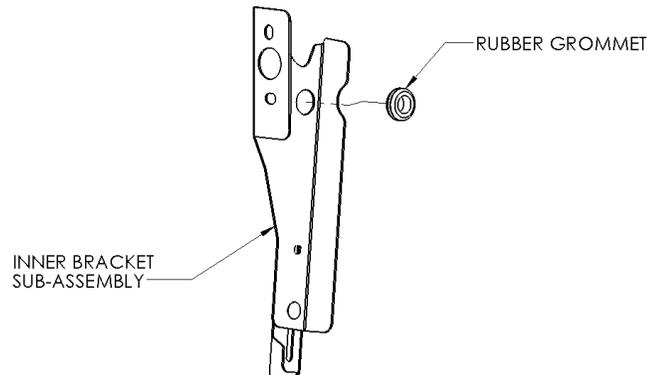

FIGURE 4 – Inner bracket sub-assembly, driver side shown
- iii. Install grommet in the side of each Inner Bracket sub-assembly (See FIGURE 4).